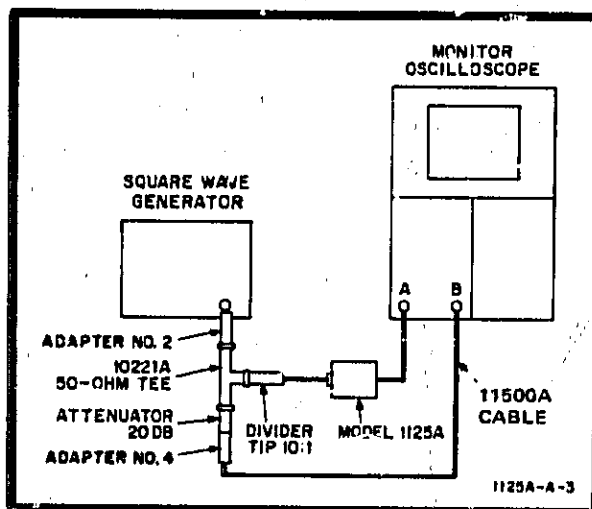

Figure 4. Perturbation Test Setup
- e. Connect equipment as shown in figure 4.